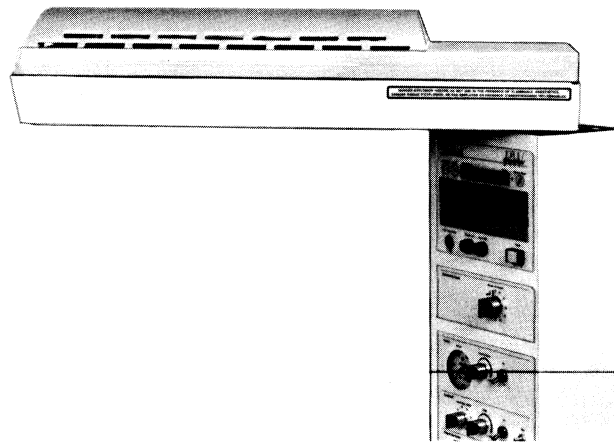

FIGURE 2.7 CHECKING THE WARMER MODULE SWIVEL
5. **CHECK THE WARMER MODULE SWIVEL OPERATION** (Figure 2.7) by rotating the Warmer Module 90 degrees to the left and right of center. Return to the center position.